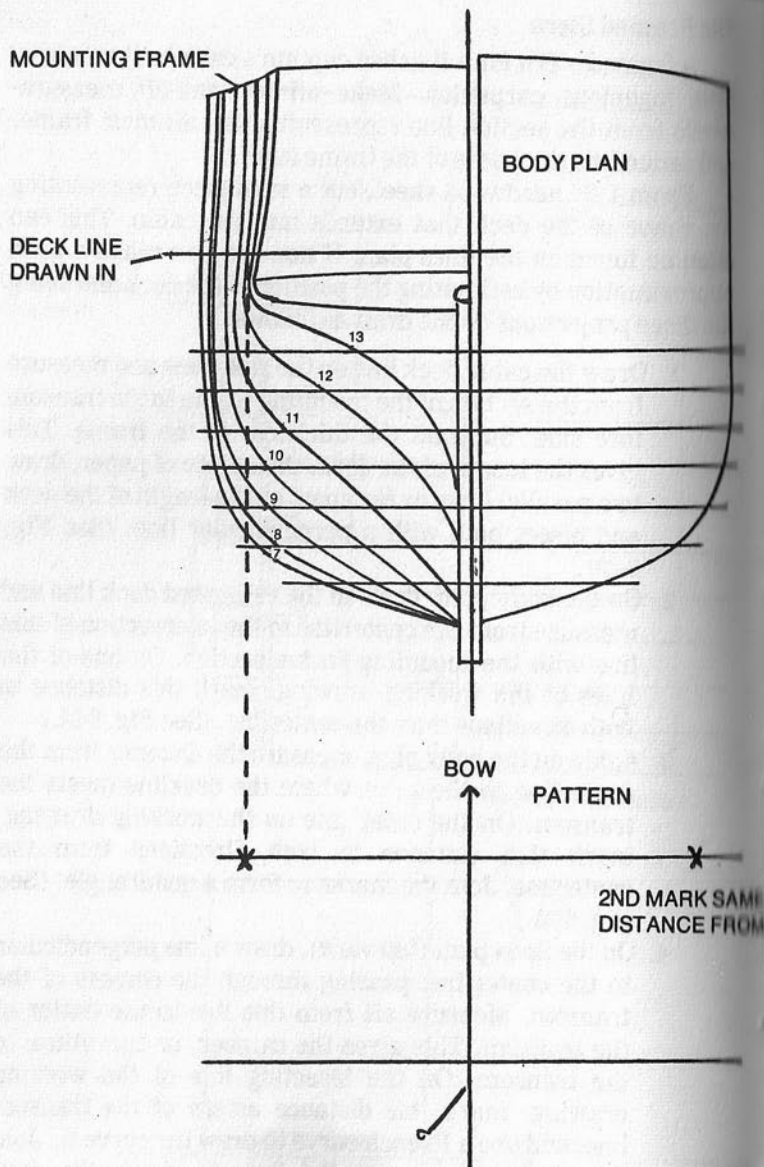

Fig. 6-24. Cabin deck—step 2.
2. On the body plan, draw in the estimated deck line and measure from the centerline to the intersection of this line with the mounting frame section. On one of the lines of the working drawing, mark this distance in both directions from the centerline. (See Fig. 6-24.)